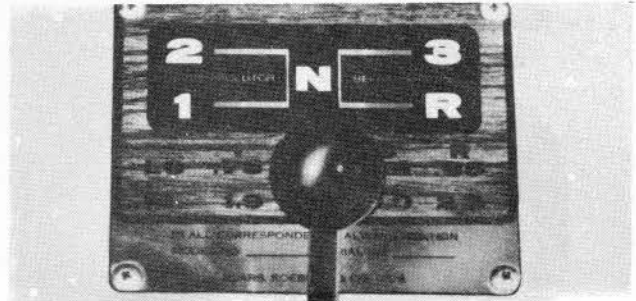

FIG. 4
2. Transmission gear shift lever is located at front center of seat. See Fig. 4.
The gear shift lever selects the Forward speeds, the Neutral, and the Reverse positions required, Fig. 4. and 4.
4. Transmission gear shift lever must be in neutral. Neutral is when gear shift lever is free to move forward and backwards. It will operate similar to an automobile. See Fig. 4, page 4.